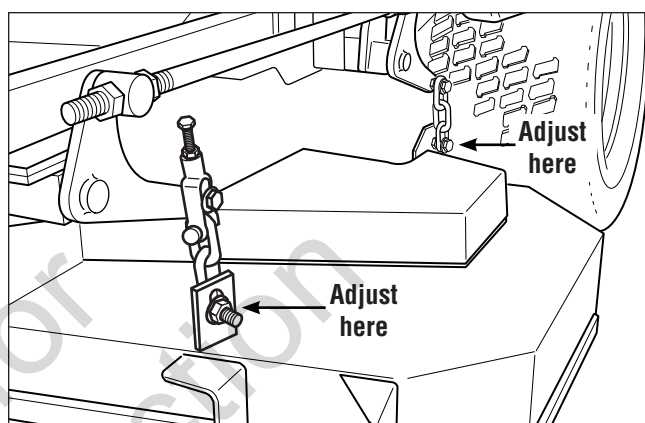

Figure 44. Hanger Chain Adjustment
4. Loosen the nuts and allow the front of the deck to rest on the 2 x 4's. Slide the chains down in the slots until the chains are tight and tighten the nuts. See Figure 44.
5. Loosen the nuts and allow the rear of the deck to rest on the 2 x 4's. Slide the chains down in the slots until the chains are tight and tighten the nuts. See Figure 44.